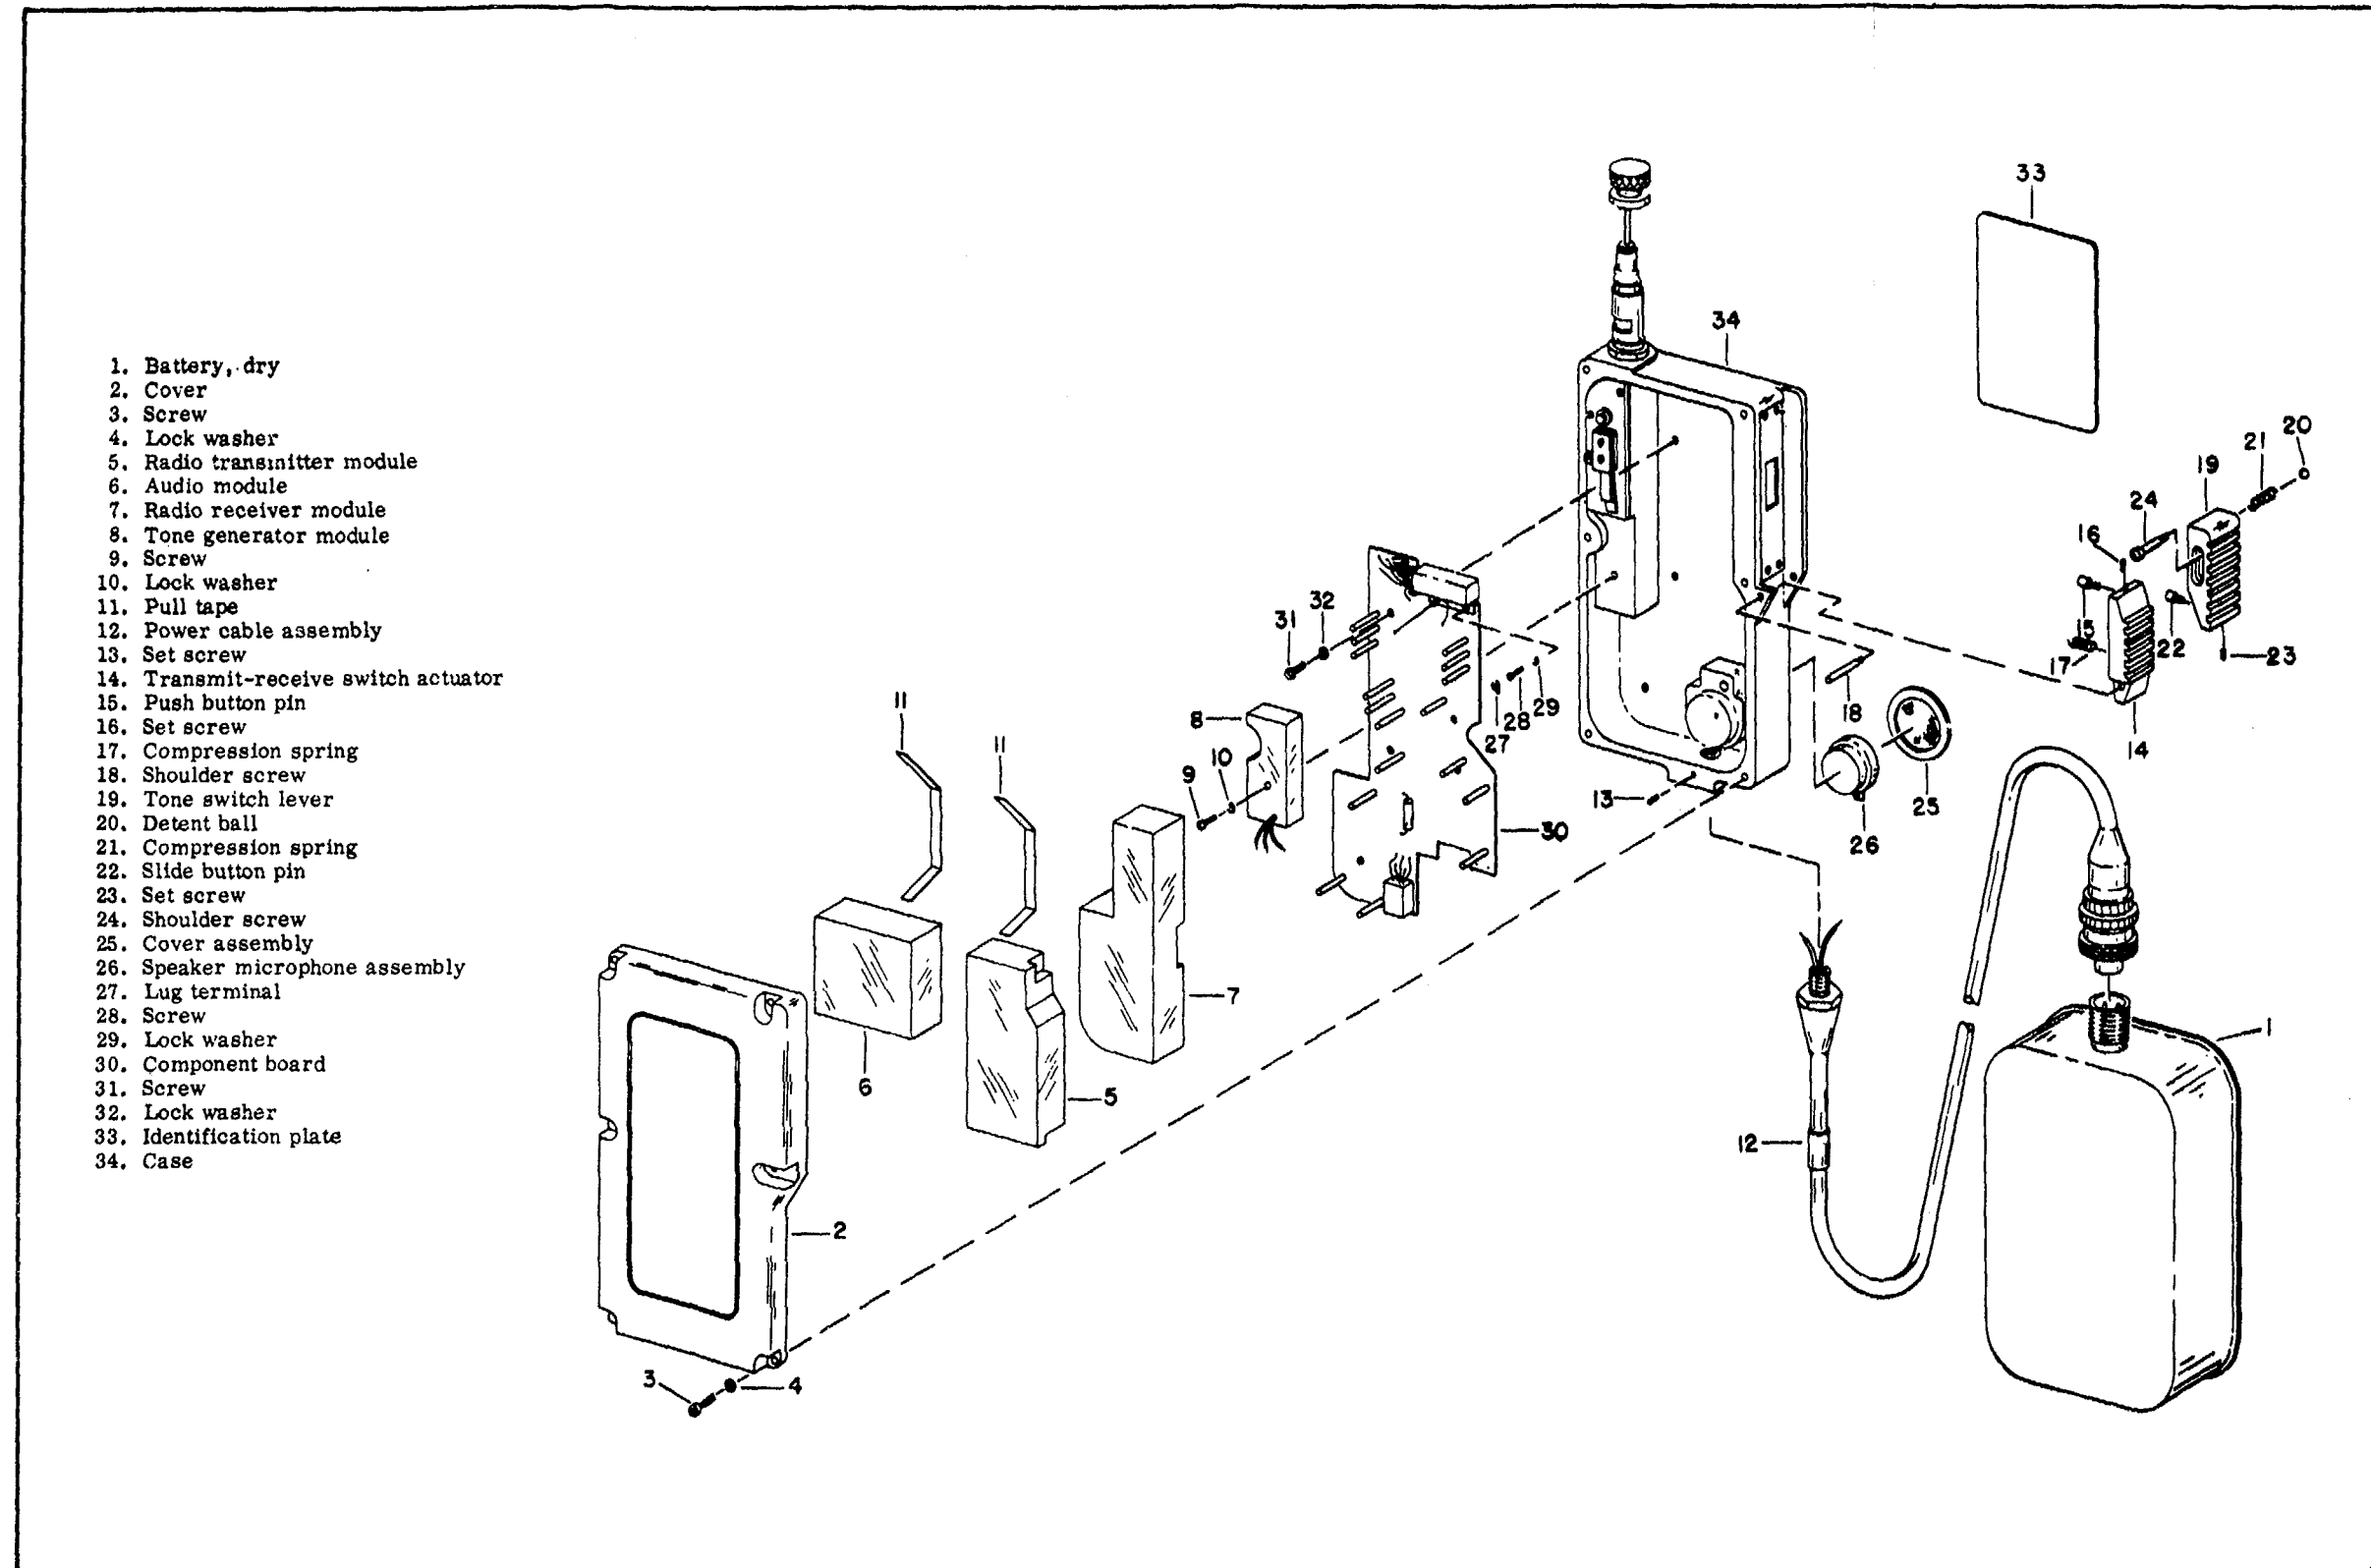

Figure 6-5. Radio Set AN/URC-10 (Receiver-Transmitter RT-278), Exploded View
**6-9. REMOVAL (RT-278/URC-10). (See figure 6-5.)**
a. Disconnect connector cable assembly (12) from battery (1).
a. Remove cover (2) by removing six screws (3) and washers (4).
b. Pull tapes (9) to remove modules (5,6). Remove screw (9) and lock washer (10) from module (8) and pull the module straight out.
c. Grasp module (7) and pull out.